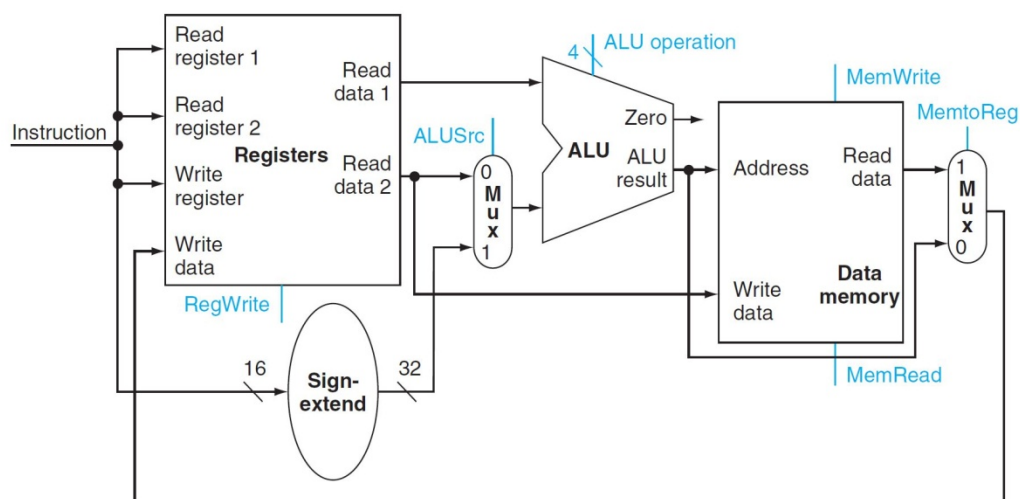

FIGURE 4.10 The datapath for the memory instructions and the R-type instructions.
- Review Figure 4.10 in Patterson and Hennessey. Design a sign extend machine in VHDL that sign extends a 6-bit number to a 16-bit number, **SGNEXT6x16** (because our immediate field is 6 bits long).